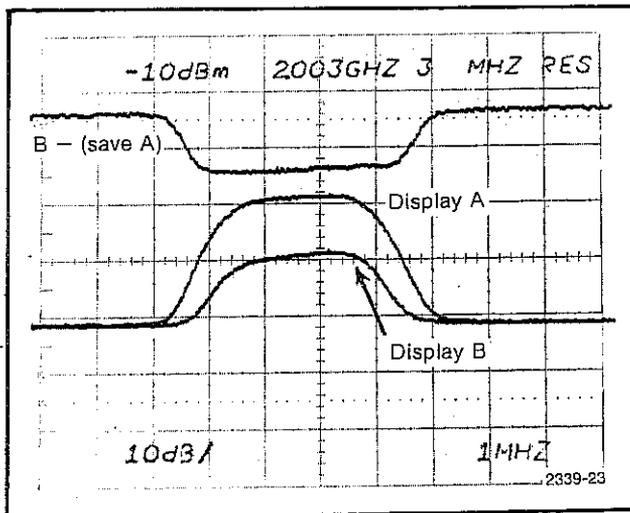

Fig. 4-9. Using Digital Storage Feature to Measure Differential Between Two Displays.
e. Check—B—(SAVE A) display should be the difference between display B and display A (approximately 10 dB), see Fig. 4-9.